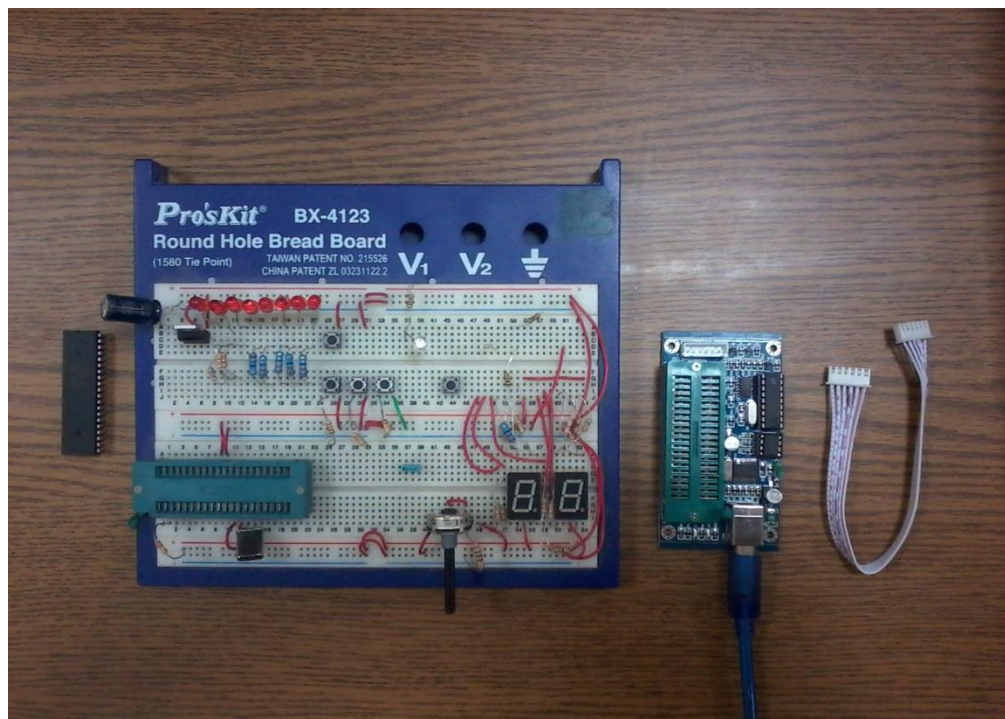

Figure 4.1: Equipment and devices used in the experiment.
3. Breadboard and electronic components as shown in Figure 4.1